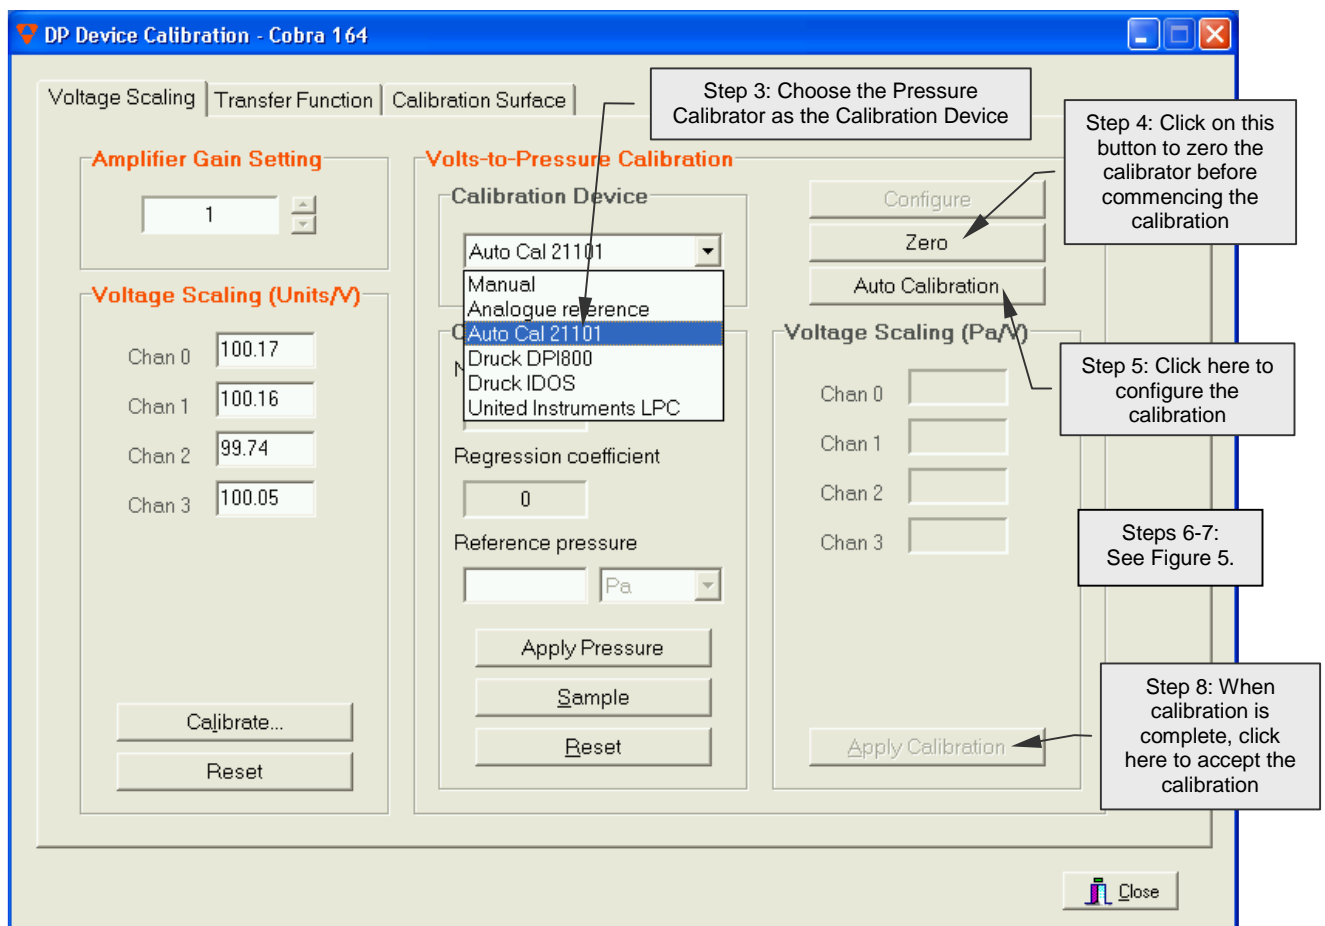

Figure 4: Automated Pressure Calibration
2. Select **Devices** from the **Settings** menu and click on the pressure-based device in the **Active Devices** or **Installed Devices** list that is to be calibrated. In the **Settings** box on the right-hand side of the window, click on **Calibration**. In the **Voltage Scaling** tab, click on **Calibrate**. The window should now look similar to Figure 4.
3. Select your Pressure Calibrator in the drop-down list (see Figure 4) to set it as the active Calibration Device.
4. Click **Zero** to remove voltage offsets from the Pressure Calibrator before commencing the calibration (see Figure 4).
8. When the calibration is complete, click **Apply Calibration** (see Figure 4) to accept and apply the calibration to the device.